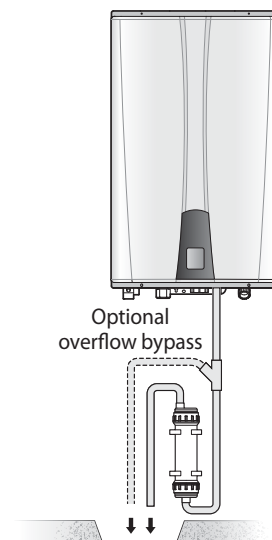

Figure 2. Vertical installation
- If the neutralizer is mounted vertically, ensure that the outlet is higher than the inlet (Figure 2).